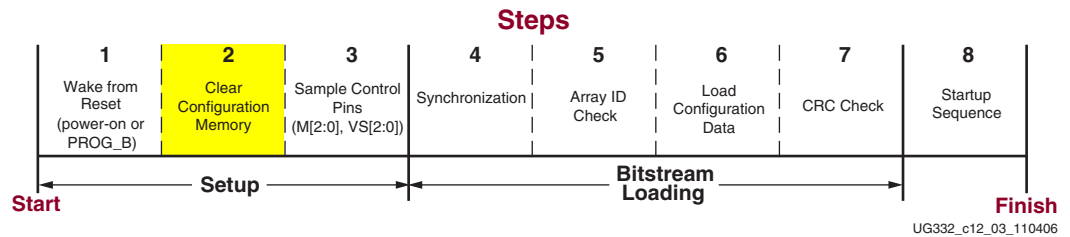

Figure 12-5: Clear Configuration Memory (Initialization)
2. Hold the **INIT_B** pin Low during initialization, which stalls the configuration process in Step 2 shown in Figure 12-5, page 243. However, after the FPGA releases **INIT_B** High, the application cannot subsequently delay configuration by pulling **INIT_B** Low.